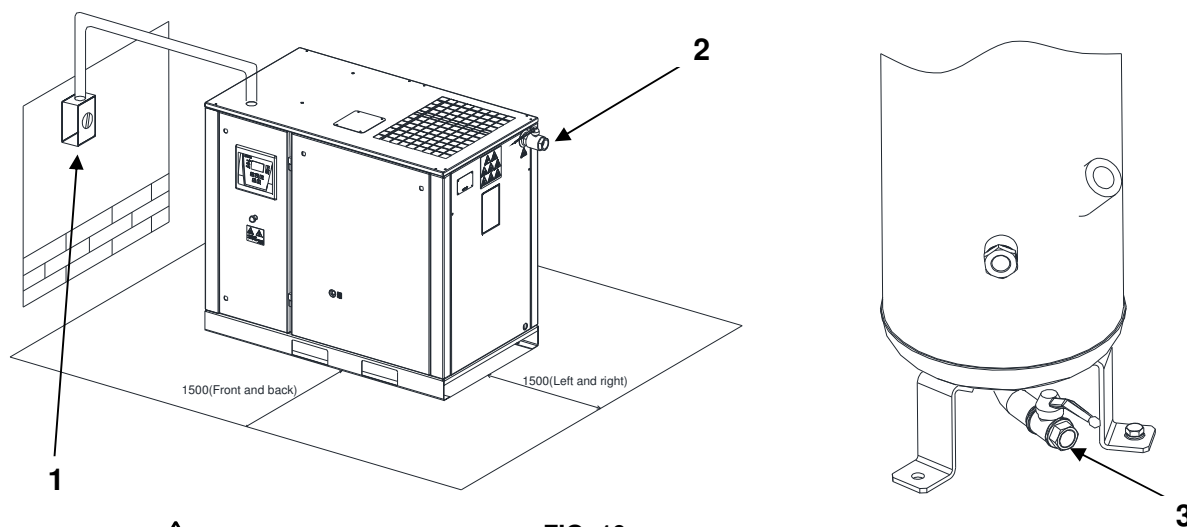

FIG. 10
- ensure that there is sufficient space around the machine to allow maintenance (see FIG. 10).
- Ensure that there is a main supply switch upstream for the machine (see Ref. 1 FIG. 10).
Fit a manual interception valve Ref. 2 FIG. 10 between the machine and the compressed air network so that the compressor may be isolated during maintenance operations.
Condensate must be drained from the oil receiver (manually) Ref. 3 FIG. 10, in conformity with the local regulations in force.